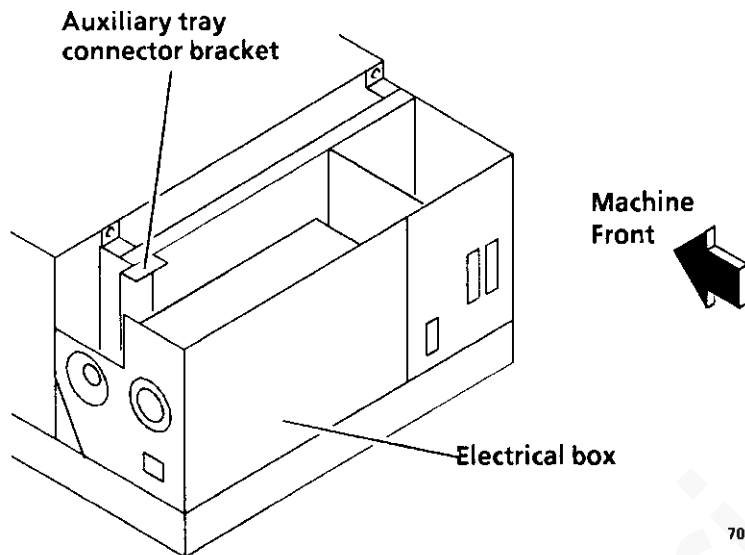

Figure 4. Auxiliary tray bracket removal
d. Remove auxiliary tray connector bracket (Figure 4).